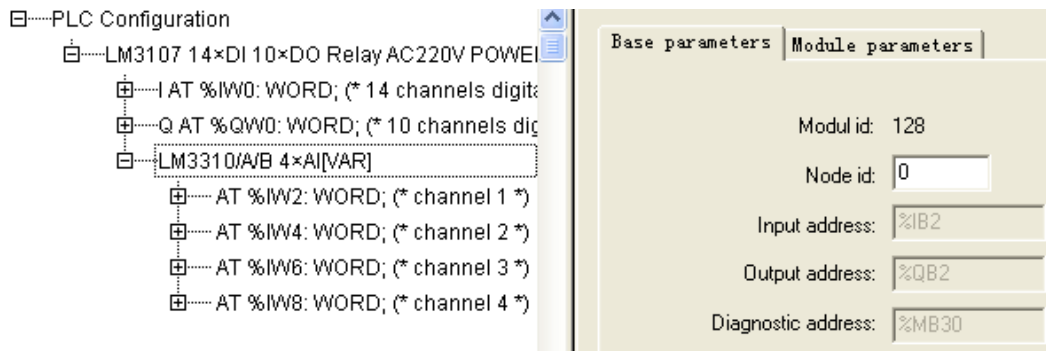

Figure 5-1-1
Input value of Address in Application example should be consistent with the node id in PLC configuration, as shown in figure 5-1-1.
- When EN is set and retained, Analog_IN modules are scanned. As shown in figure 5-1-1, the scanned values of four channels are stored in registers %IW2, %IW4, %IW6, and %IW8 respectively.
- Before calling Analog_IN, PLC must be configured (as shown in figure 5-1-1) and Hollysys_PLC_Analog.lib must be added.